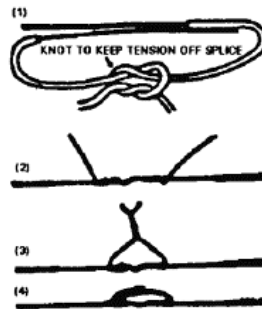

Figure A-20. Example of the Western Union pigtail method of splicing
Step 3. If the circuit is defective, shunt the wires. Then go down range and recheck the circuit. If you find a defective cap, replace it. Continue to test all caps and wires in the circuit. Then test the entire circuit again to make sure that you have found all defects before attempting to fire the charge. If you find a defective splice, resplice the wires using the Western Union pigtail method (Figure A-20).